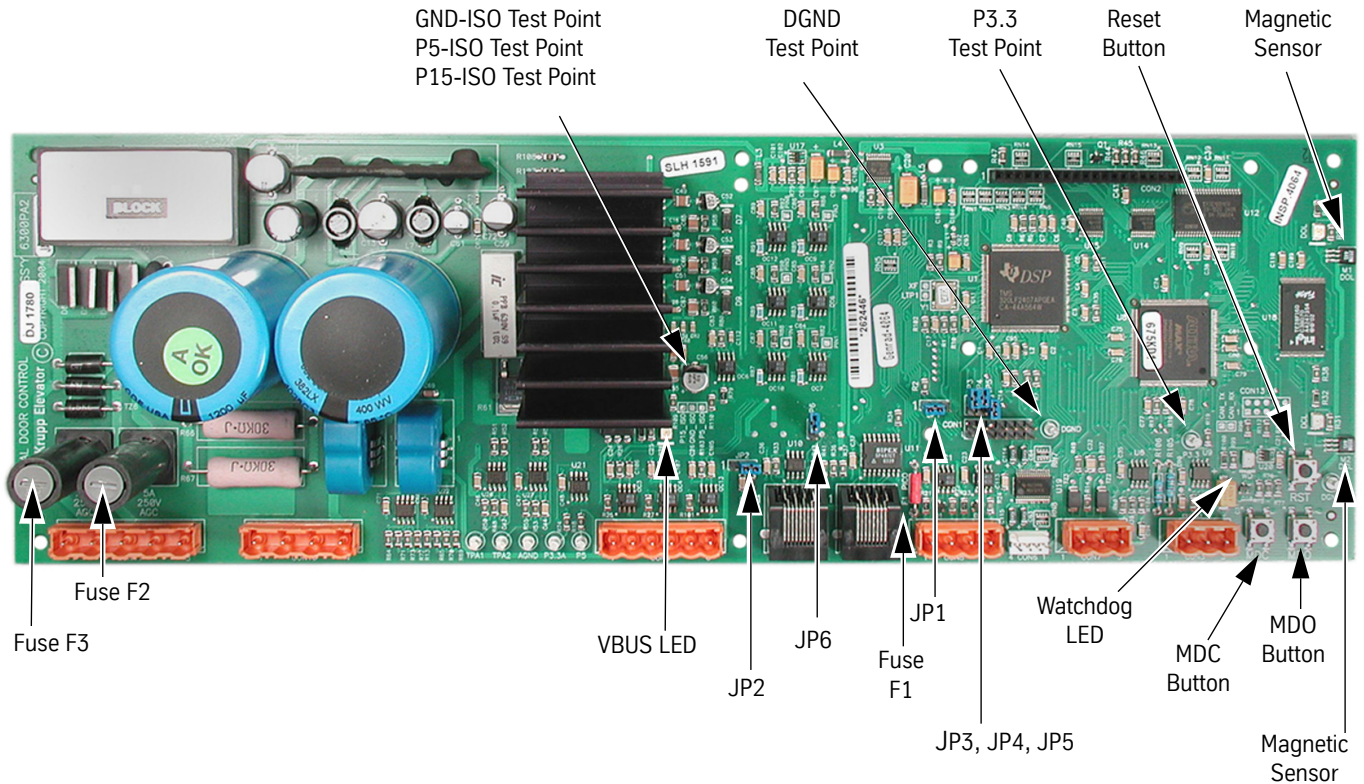

Figure 7 - 6300PA2 Door Operator Card
8. Ensure that the door configuration jumpers on the door card are installed per Table 1. See Figure 7 on page 10 for locations.